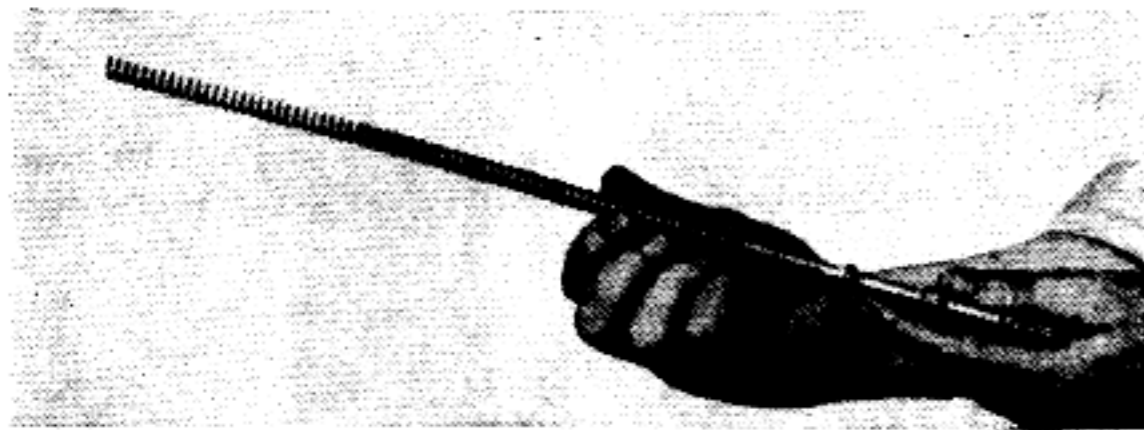

Fig. 25
Separate the piston spring from the piston rod (fig. 25).
- Replace the piston spring on the piston rod (fig. 25).